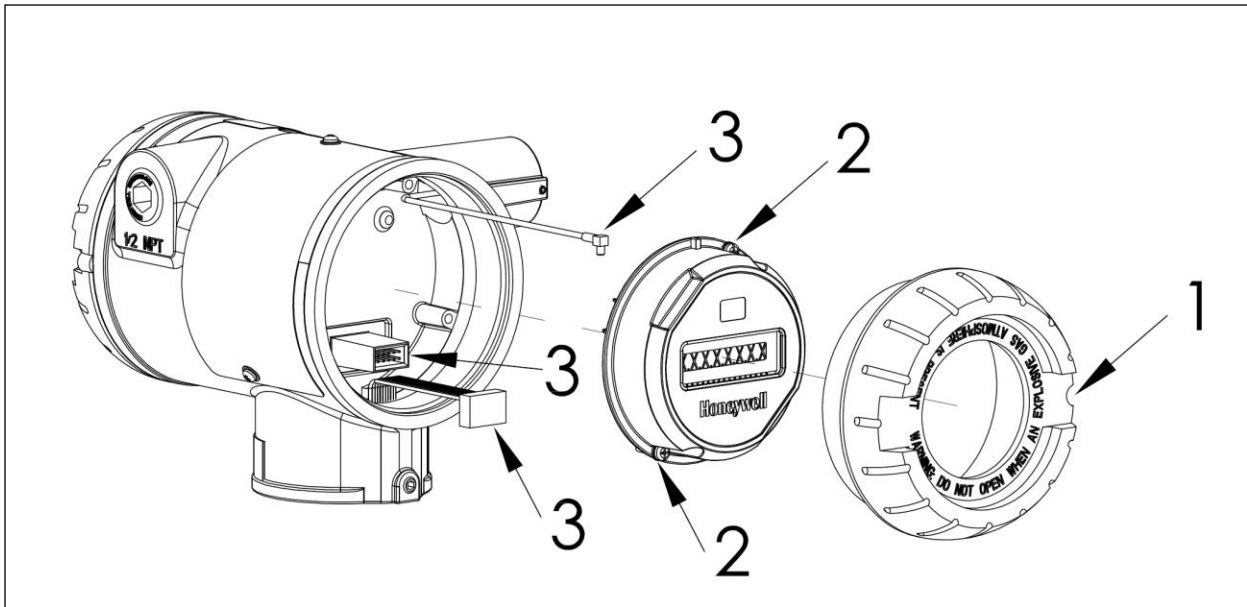

Figure 7-3: Sensor module removal and replacement
2	Loosen the M3 locking set screw on the display end-cap. See item 1 in Figure 7-3 . Unscrew and remove the end cap.
3	Loosen the two screws on the electronics module. See items 2 in Figure 7-3
4	Disconnect each connector on the electronics module. See items 3 in Figure 7-3